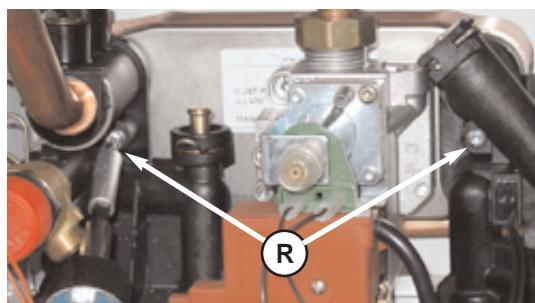

Fig. 85
4. Unscrew the two fixing screws “R” and pull it toward you (see Figs. 85 & 86a); ;